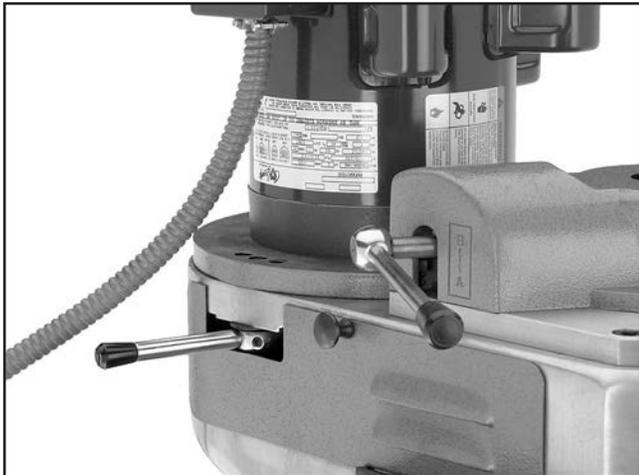

Figure 28. Model G9901/G9902 spindle speed range lever (shown in the low range).
3. Move the spindle speed range lever to the desired range (see **Figures 28–29**).